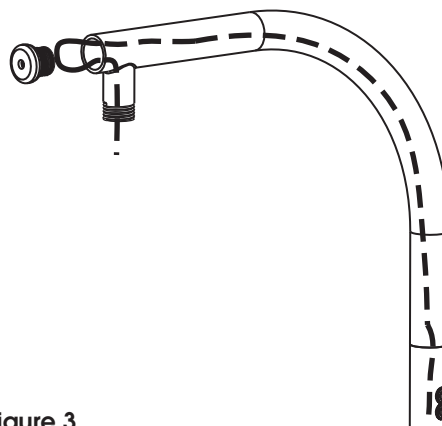

Figure 3
- 3 Run electrical and video wiring through the inside of the bracket and out through the dome attachment arm (Figure 3).